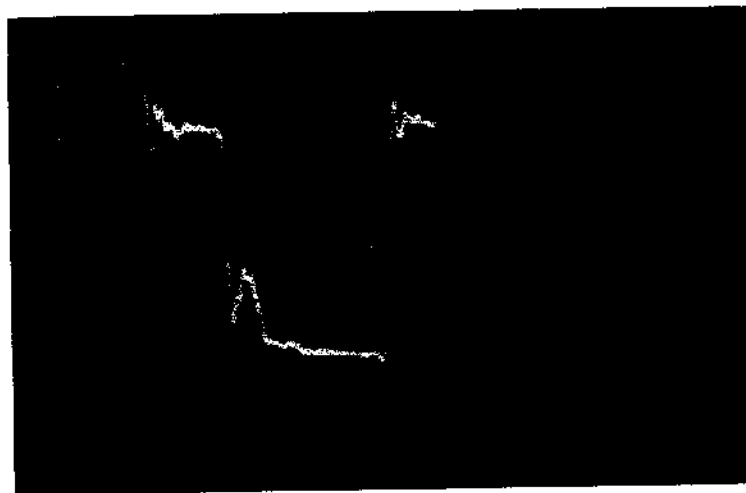

Figure 3-4 Negative Memory Current
- 6 At the scope, set the Channel 2 GND reference 2 cm above the center graticule and observe the negative waveform. As shown in Figure 3-4, it should be approximately 350 mA +5%.